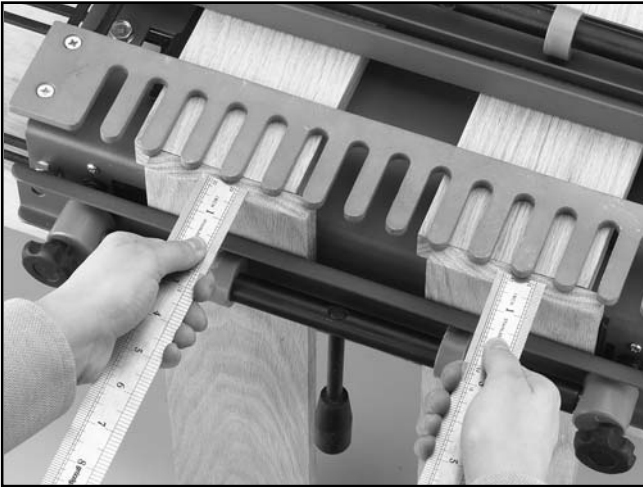

Figure 15. Make sure template is parallel to drawer edges.
4. To measure at both ends of the jig, try shifting the vertical piece to the other end of the jig or clamp two pieces at each end of the jig as shown in See **Figure 15**. *It is not necessary to simultaneously measure with two rulers. The two rulers only represent two measurement locations.*